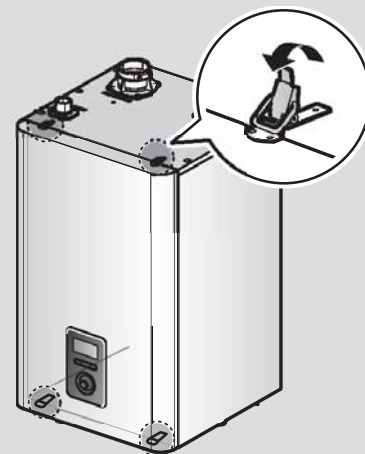

Figure 1. NFB-H Series Front cover
2. Unfasten the 4 latches (2 at the top and 2 at the bottom) to remove the front cover and gain access to the internal components. See Figure 1 for illustration of the front cover clamps.